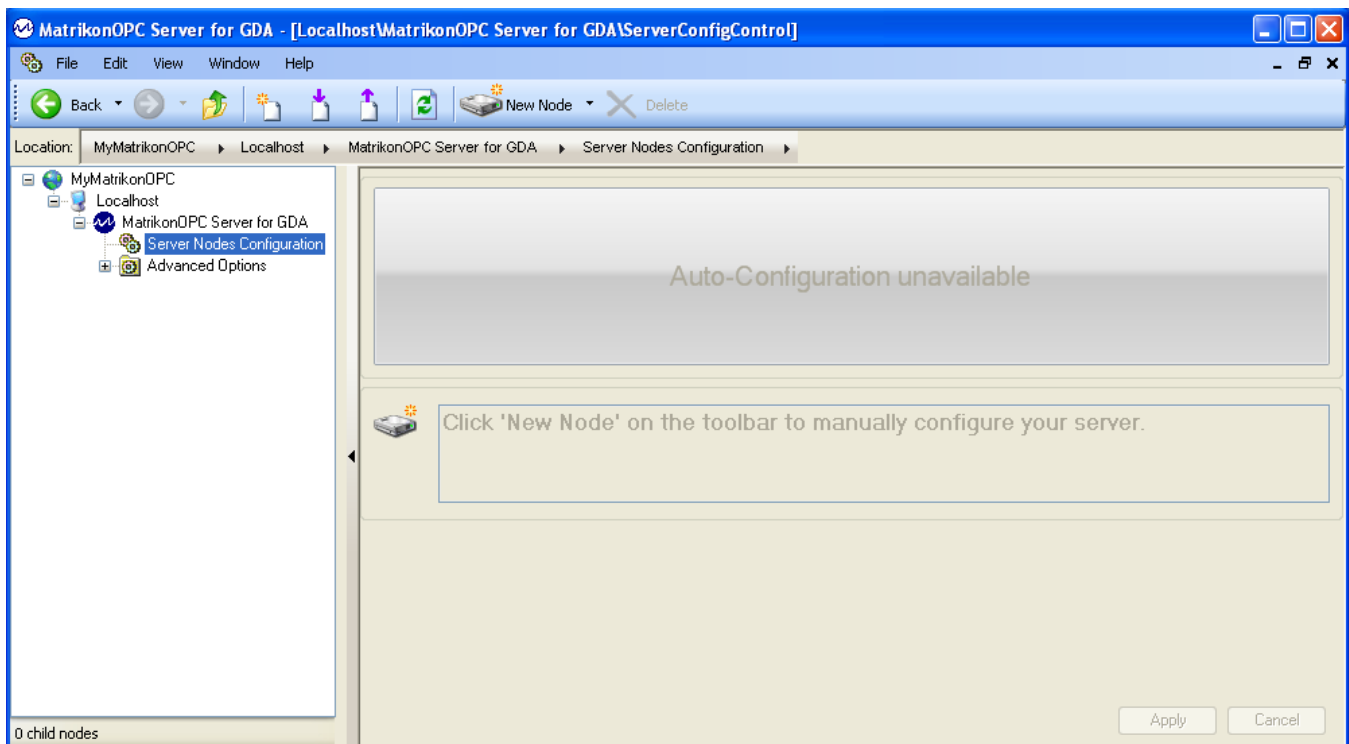

Figure 1 - Configuration Window
The *User's Manual* has been designed as such so that you can click on references in the document to jump to that referenced point without having to scroll through several pages (in some cases). For example, if you were to see the sentence "*Refer to Figure 1 for more information*", pressing the **CTRL** key and clicking your mouse on the text "*Figure 1*" automatically takes you to the location of Figure 1 within the document.
2. The **Configuration** window appears and the **Server Nodes Configuration** pane (Figure 1) is displayed on the left side of the window.